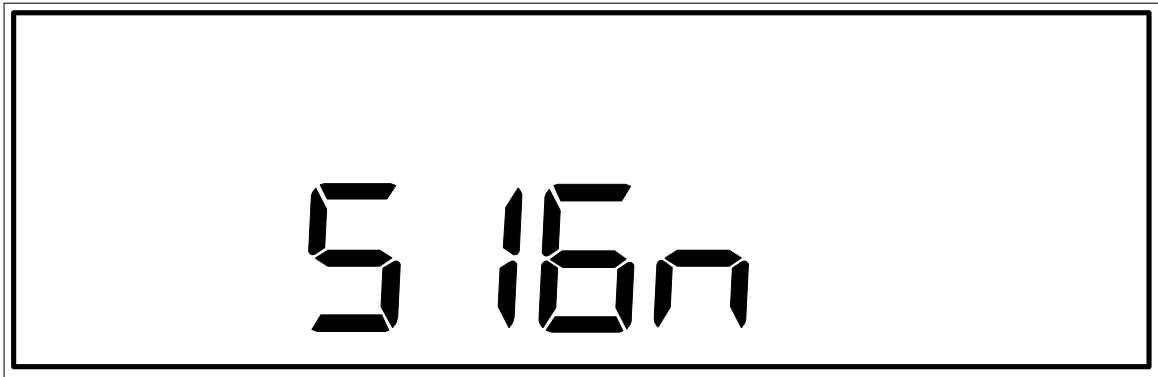

Figure 87: The Keypad Test Result for the [+/-] Key
The system should respond by clearing the window and showing the number four (4) in the right display. All keys on the keypad can now be tested. To test a key simply press it. For example, if the [1/1] key is pressed, the number 1 appears in the main display. If the [2/2] key is pressed, the number 2 appears in the main display. The following chart lists what is shown in the main display for every key on the keypad. Figures 87 and 88 provide examples of some keypad test results.
[+/-]	The word SIGn (as shown in Figure 87, page 295)